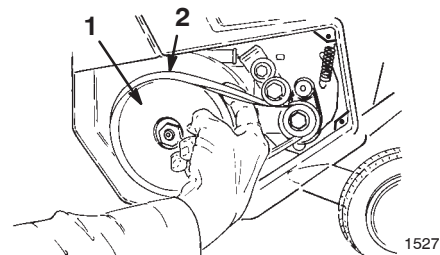

Figure 19
3. Rotate the rotor with your left hand while sliding the belt off the large pulley with your right hand (Fig. 19).
2. Remove the large belt by slowly sliding it off the small pulley (Fig. 19). Refer to steps 2 and 3 of Replacing the Large Belt on page 10.